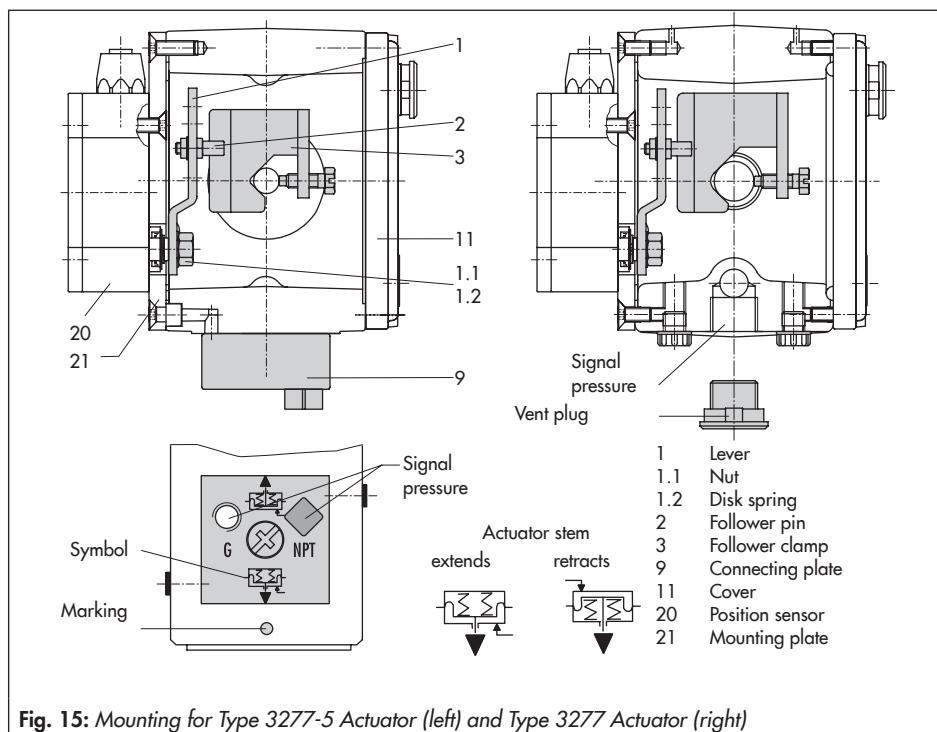

Fig. 15: Mounting for Type 3277-5 Actuator (left) and Type 3277 Actuator (right)
Type 3277-5 Actuator with 120 cm² (Fig. 15)
The signal pressure from the positioner is routed over the signal pressure connection of the connecting plate (9, Fig. 15 left) to the actuator diaphragm chamber. To proceed, first screw the connecting plate (9) included in the accessories onto the actuator yoke.
- Turn the connecting plate (9) so that the correct symbol for the fail-safe action "actuator stem extends" or "actuator stem
"retracts" is aligned with the marking (Fig. 15, below).